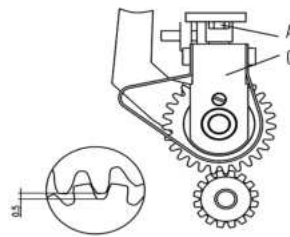

图20 (Fig.20)
上下滚轮的间隙: 将下滚轮放至下死点在自由状态时, 上滚轮与下滚轮的齿间隙为0.5mm(图20), 且两滚轮平行。调整:
1. 两滚轮平行调整: 将螺钉(A)放松, 调整两滚轮平行后, 稍紧螺钉(A)上下移动固定座(C), 使上下滑动顺畅, 再锁紧螺钉(A)。 (图20)
The feeth gap between top and lower rollers should be 0.5mm (Fig.20), when the lower roller is free and at its dead bottom end and parallel to the top roller.
Paralleling Loosen screw (A) and top and lower rollers parallel. Tighten screw (A) slightly and move frame Base (C) up and down to its smooth. The tighten screw (A). (Fig.20)